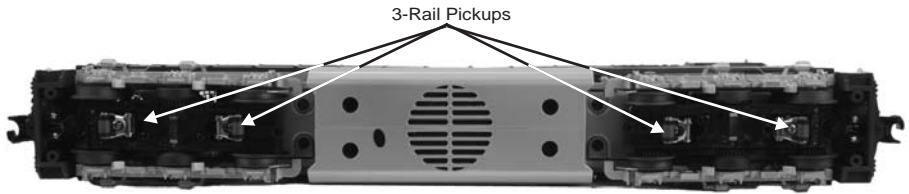

Figure 5: 2-Rail/ 3-Rail Operation
1. Remove the center rail pickup roller assemblies as seen in figure 5 (*next page*).